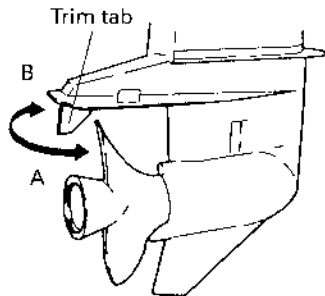

Fig. 45
■ If the boat veers toward the right, set the trim tab in the direction of A. (Fig. 45)
If the boat veers toward the left, set the trim tab in the direction of B. (Fig. 45)